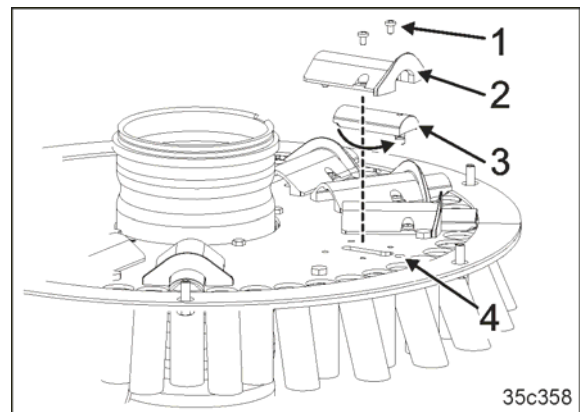

Fig. 192
10. Loosen the bolts (Fig. 192/1).
11. Remove the shutter tunnel (Fig. 192/2).
12. The shutter (Fig. 192/3) is inserted in the guide.
13. Turn the shutters around (Fig. 192/3) and push them into the drill hole (Fig. 192/4).
14. Screw the shutter tunnel (Fig. 192/2) onto the base plate.